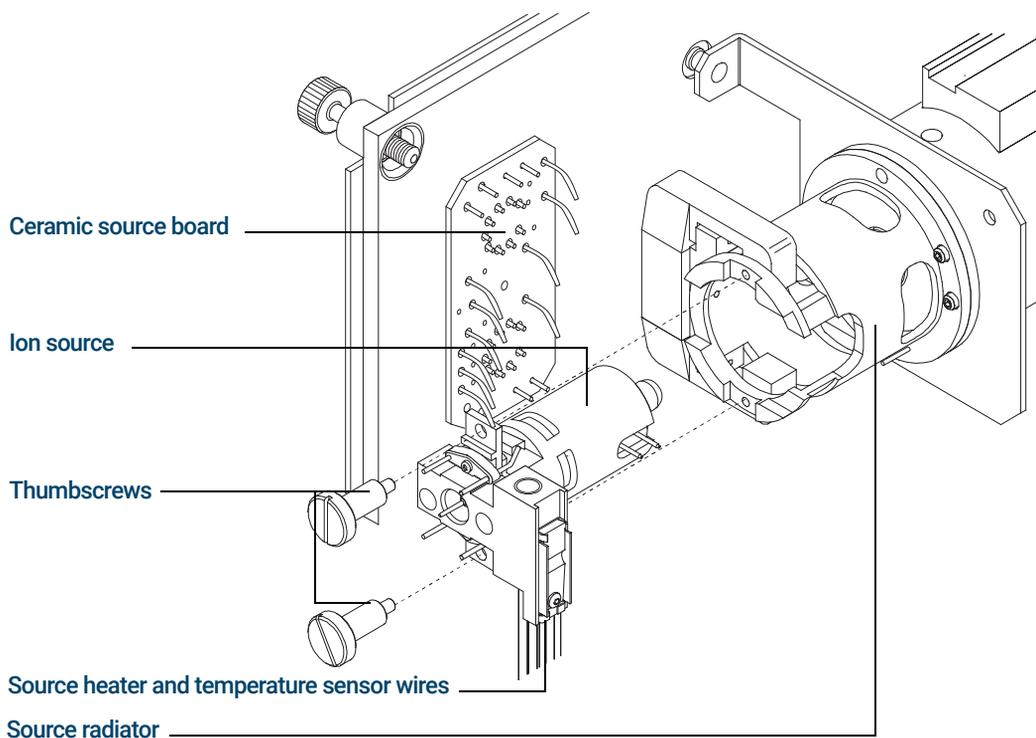

Figure 48. Removing the EI XTR or HydroInert source
- 4 Remove the thumbscrews that hold the ion source in place. (See **Figure 48.**)